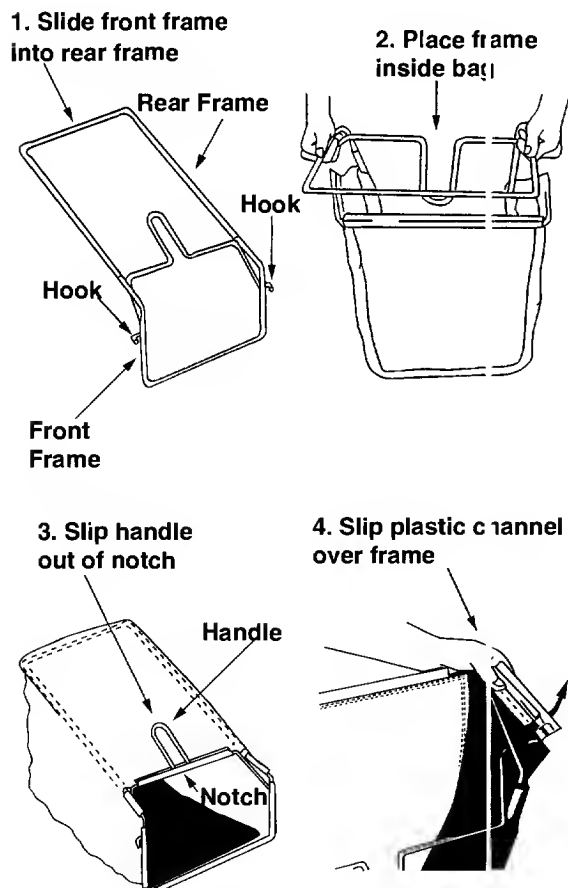

Figure 6
- Slip the plastic channel of the bag over the frame (adjacent to the handle of the grass catcher). See figure 6. Make sure that the handle of the grass catcher protrudes *out* of the notch in the plastic channel on bag.
- Lift the rear discharge door on the mower and remove the mulching baffle. See figure 6.